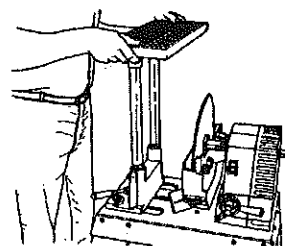

Fig.H-5
7. Mount the Extension Table into the carriage's tall tube holes. See Fig.H-5.